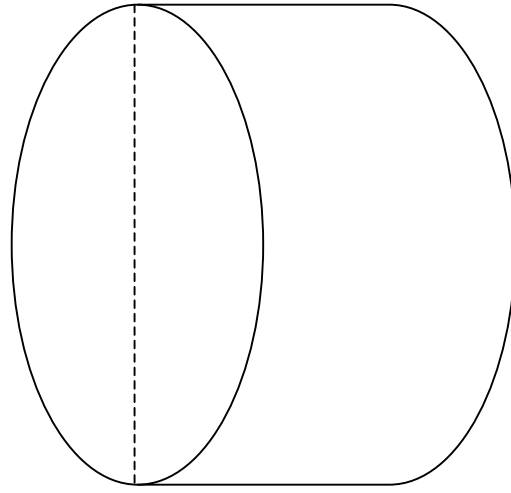

Figure 5: Disk of Lucite (or other plastic) with dashed line to show cut.
- 3. If you are using a cylinder, make an additional straight cut through the center of the disk from step 2 (dashed line in Figure 5).**